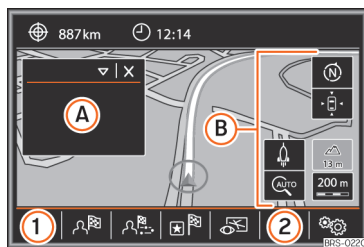

Fig. 213 Navigation main menu
- View** : To modify or activate or deactivate the split screen » Fig. 213 **A** » page 221.